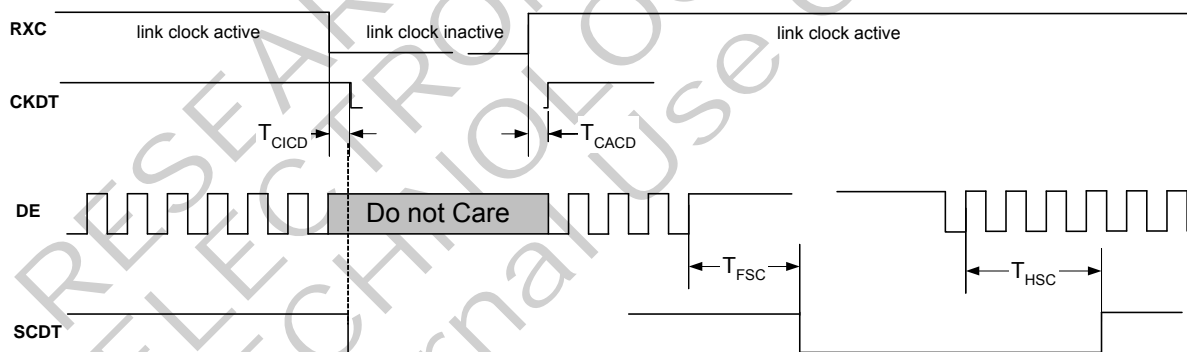

Figure 10. SCDT and CKDT Timing from DE or RXC Inactive/Active
| T_{FSC} | Link disabled (DE inactive) to SCDT low | | | 0.15 | 40 | ms | Figure 10 | 1, 2, 3, 8 |
| T_{HSC} | Link enabled (DE active) to SCDT high | | | | 4 | DE | Figure 10 | 1, 2, 4, 8 |
| T_{CICD} | RXC inactive to CKDT low | | | | 100 | μ s | Figure 10 | 1, 2, 8 |
| T_{CACD} | RXC active to CKDT high | | | | 10 | μ s | Figure 10 | 1, 2, 8 |
1. The SCDT shown in Figure 10 is a register bit. SCDT remains HIGH if DE is stuck in LOW while RXC remains active, but SCDT changes to LOW if DE is stuck HIGH while RXC remains active.
2. The CKDT shown in Figure 10 is a register bit. CKDT changes to LOW whenever RXC stops, and changes to HIGH when RXC starts. SCDT changes to LOW when CKDT changes to LOW.